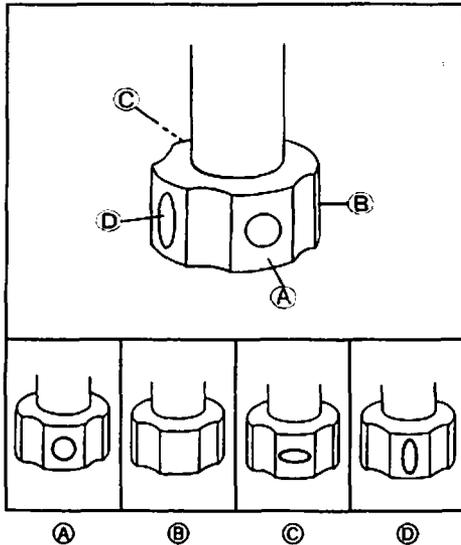

Fig. 64
1. Turn the clutch knob ① on the bottom right of the stage to the "A" position. (Fig. 64)
2. The stage can be moved vertically (Y-axis direction) by rotating the upper section of the stage control knob ②, and horizontally (X-axis direction) by rotating the lower section of the knob.
(Figs. 64, 65)